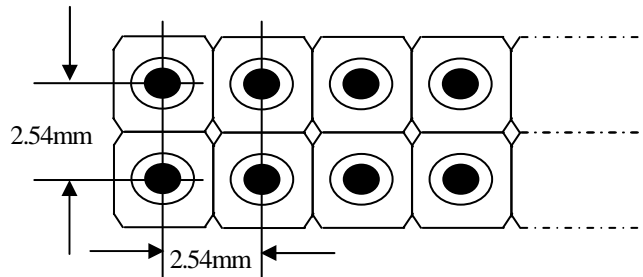
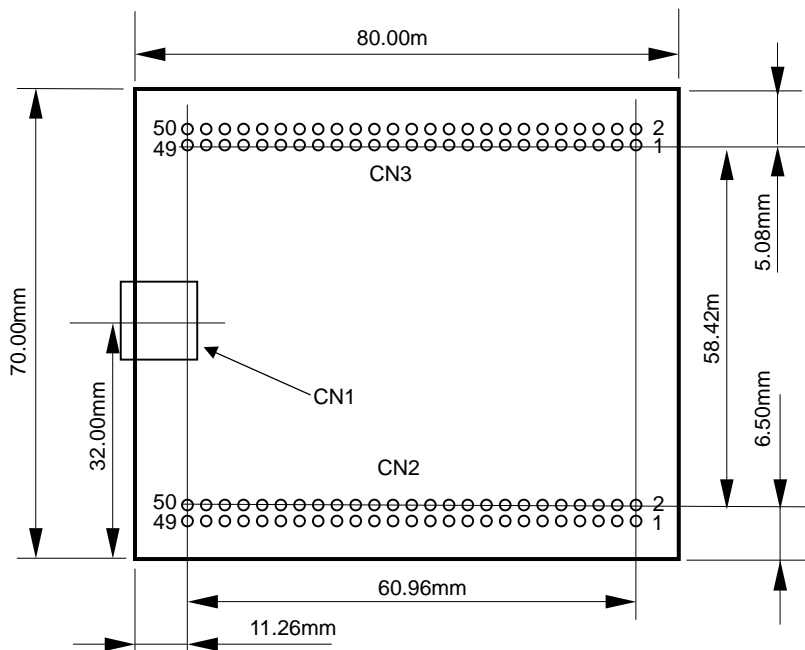

Figure 3. Pin Pitch of Connectors CN2 and CN3
Figure 4. Pin Direction of Connector CN2 and CN3 (Top View)
- (1) The receptacle of a target board should suit the size of this board (Refer to Figure 3 and Figure 4). Please make pin arrangement same as this board (Refer to Table 1 and Table 2). Please refer to the M3A-0039 part list and circuit diagram when selecting connector and pin arrangement.
- (2) As incorrect insertion preventive measures, please carry out stuffing the pins of target board that correspond to #21-pin and #22-pin of CN2 of this board. When HKP-50FD2 of Honda Communication Industry is used as receptacle, GM-25K of this company suit as stuffing.
- (3) The core power supply of M66596FP is 1.5V. A regulator makes 1.5V from 3.3V through #19-pin and #20-pin of CN3.
- (4) The interface power supply VIF is 1.8V (1.6-2.0V) or 3.3V (2.7-3.6V). Short JP4 to “EXIOVcc” and supply interface power by #25-pin and #26-pin of CN2. Please short JP4 to “3.3V”, when VIF is 3.3V. In this case, supply interface power voltage is same as AFEA33V, AFED33V.
- (5) Please use SD0-SD7 of CN2 when using split bus for DMA.
- (6) Processing for for unused pin : Please refer to the M66596 datasheet, USB2.0 Dual Function Controller M66596FP/WG, for details.